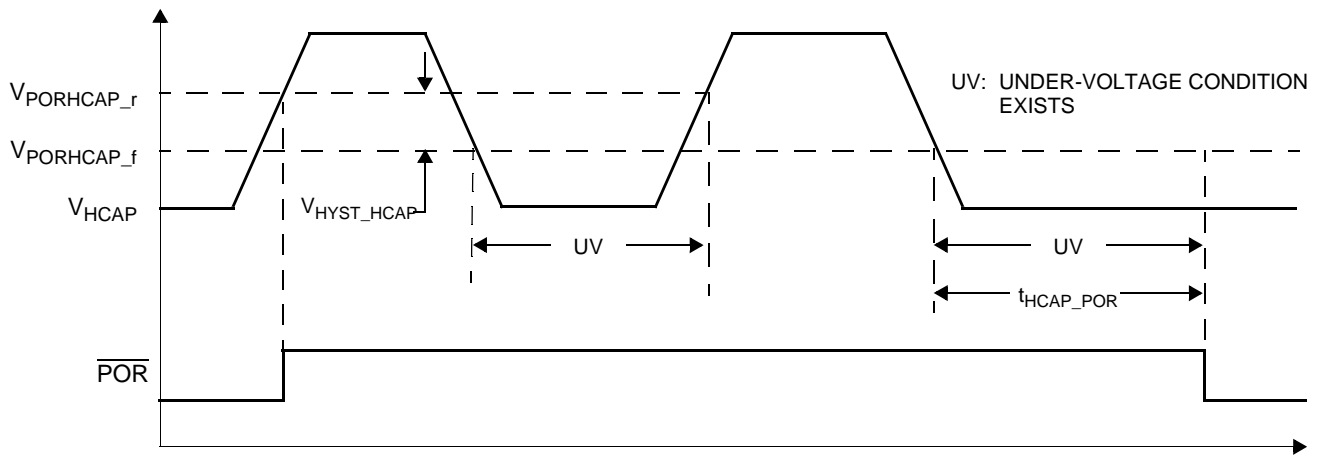

Figure 5. V_{HCAP} Under-Voltage Detection
| 91 | HCAP Under-Voltage Reset Delay (See Figure 5) $V_{HCAP} < V_{PORHCAP_f}$ to POR assertion | t_{HCAP_POR} | — | $880 / f_{OSC}$ | — | s | (7) |